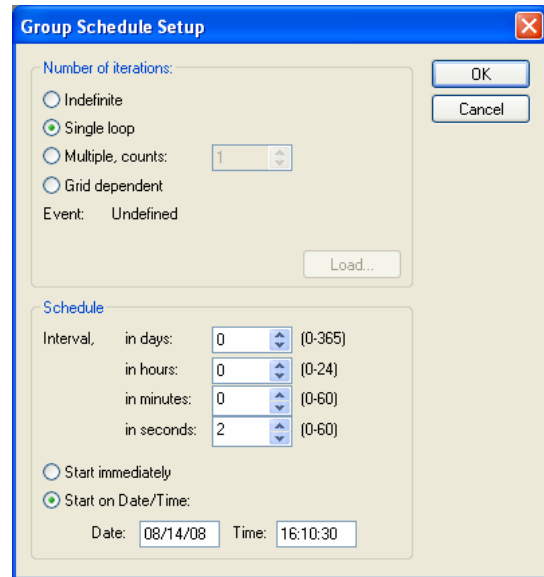

Figure 25: Group schedule setup window
6. Click on the “Scheduling” icon (encircled in blue). The “Group Schedule Setup” window, as shown in Figure 25, opens.